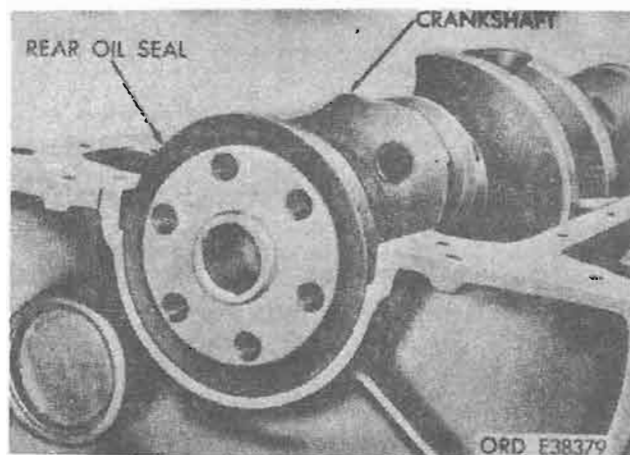

Figure 4-115. Crankshaft and rear oil seal.
e. **Crankshaft.** Lift crankshaft carefully out of cylinder block so thrust bearing surfaces are not damaged (fig. 4-115).